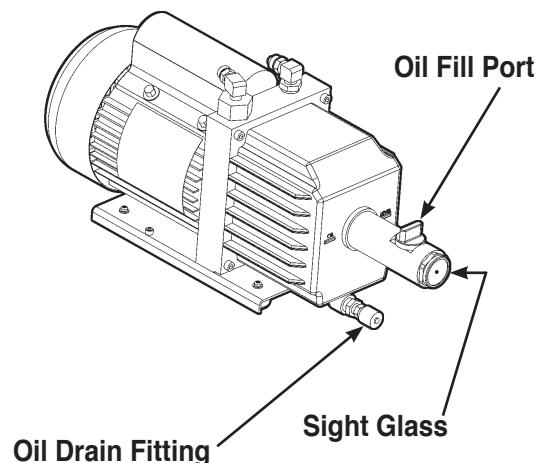

Figure 15
3. Refer to Figure 15, and remove the brass plug from the vacuum pump's oil fill port. (The pump drains faster when vented.)
5. Attach the flexible tube and cap to the oil bottle; pour five (5) ounces of vacuum pump oil into the fill port.